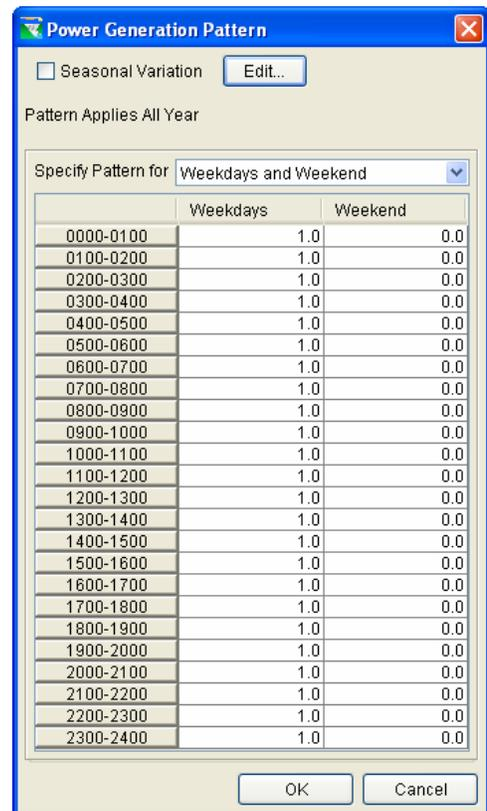

Figure 11.40 Power Generation Pattern (Weekdays & Weekends)
- The **Weekdays and Weekend** option (Figure 11.40) allows you to specify a different power generation pattern for Weekdays (Monday through Friday) than for Weekend days (Saturday and Sunday).